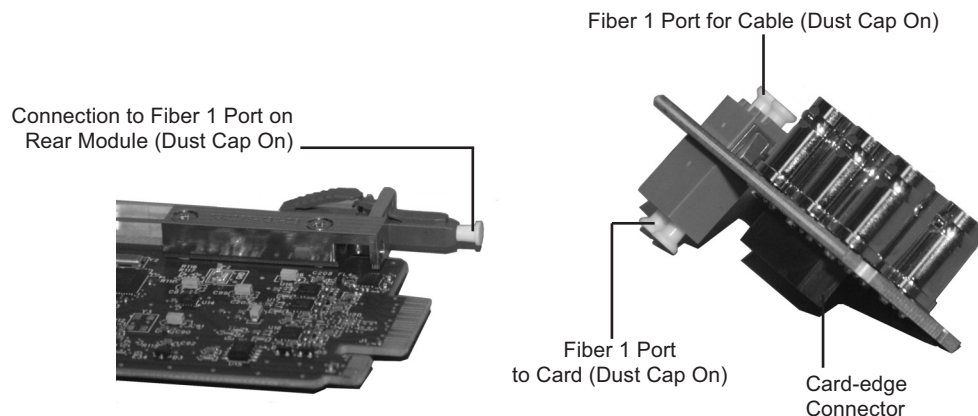
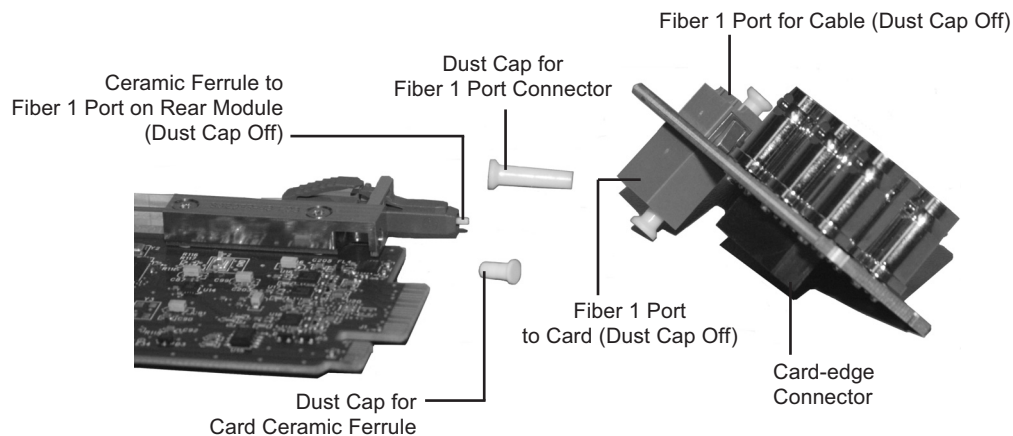
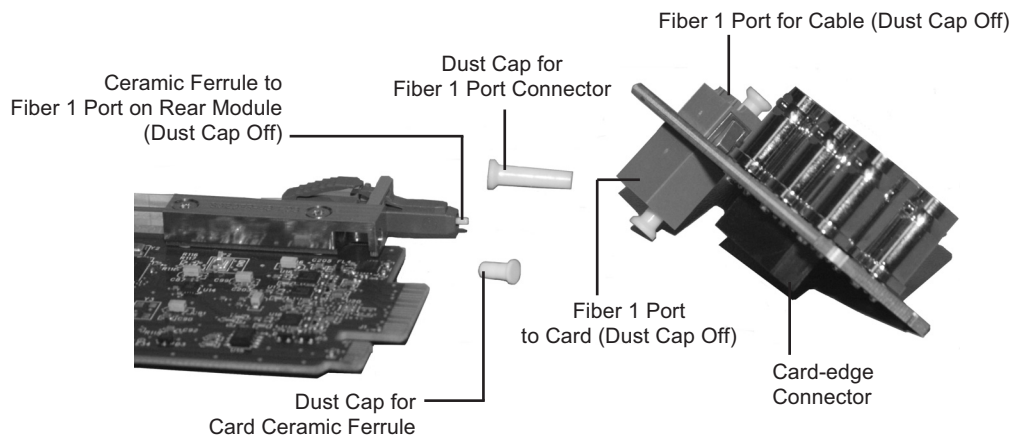

Figure 2.1 Card Connectors with Dust Caps Installed
Figure 2.2 Card Connectors with Dust Caps Removed
Figure 2.3 Card Connectors with Dust Caps Removed
- Connectors must always be inserted into a device or have a dust cap on. Refer to **Figure 2.1** for dust cap locations.
3. Remove the dust caps from the Fiber ports on the Rear Module that face the interior of the frame. Refer to **Figure 2.1** and **Figure 2.2** for dust cap locations.
- Refer to **Figure 2.1** and **Figure 2.3** for dust cap locations.